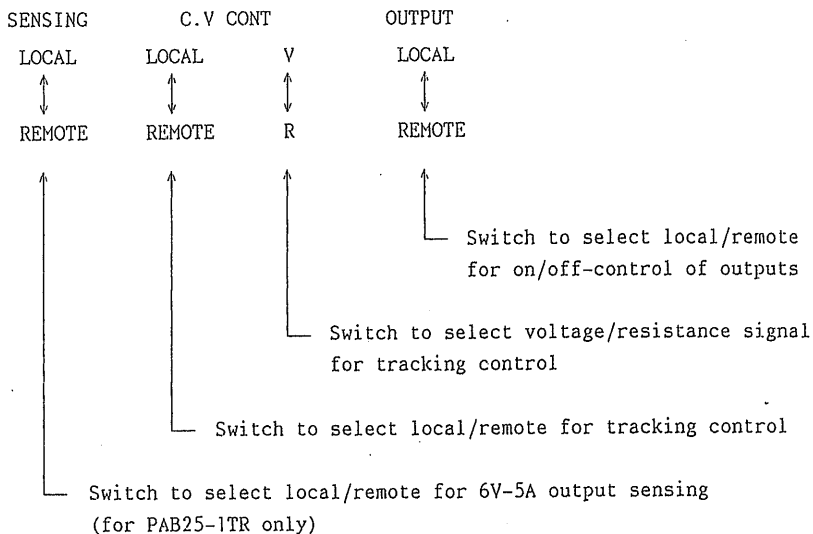

Figure 2-15. Remote Control Selector Switches on Top Panel
- (1) Turn off the POWER switch.
- (2) Connect a contact signal between rear terminals 5 and 6.
- (3) Set the OUTPUT LOCAL/REMOTE switch (see Figure 2-15) to REMOTE. (As you do this, the OUTPUT switch on the front panel is disabled.)
- (4) Turn on the POWER switch. Now the output can be ON/OFF-controlled with the contact signal (ON when the contact is made and OFF when broken.)
- (5) Set the C.V CONT LOCAL/REMOTE switch to REMOTE and the V/R switch to V. (See Figure 2-15.)
- (6) Now, as you vary the voltage signal, both "+" and "-" output voltages will vary simultaneously.